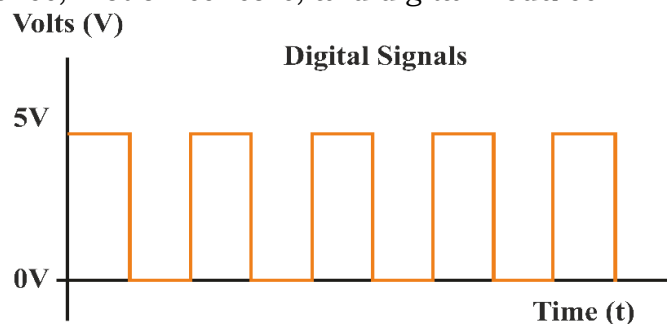

Fig.2.56: Digital Signals
Digital signals are discrete signals that can have only two states: HIGH (1) or LOW (0). These signals represent binary information and are commonly used in on/off control systems. For example, a PIR motion sensor outputs HIGH when it detects movement and LOW when there is none (Fig.2.56).